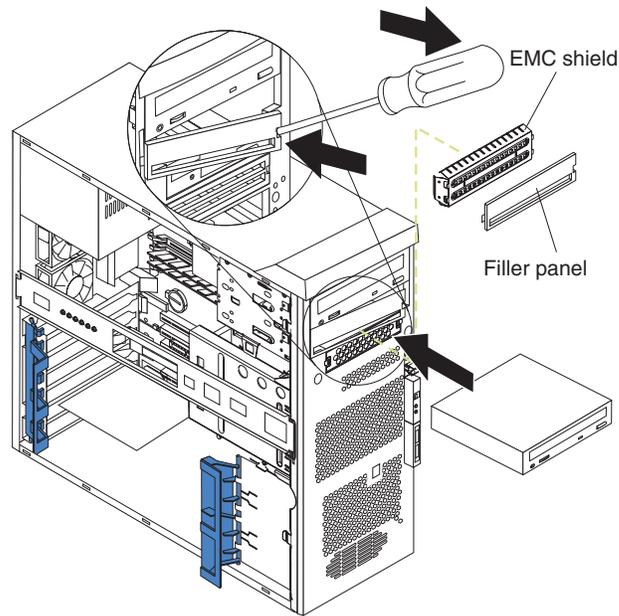

Figure 12. Preparing to install a drive in bay 2
8. If the bay does not yet contain a drive, use a screwdriver to pry the filler panel and EMC shield away from the computer (see Figure 12 on page 37).